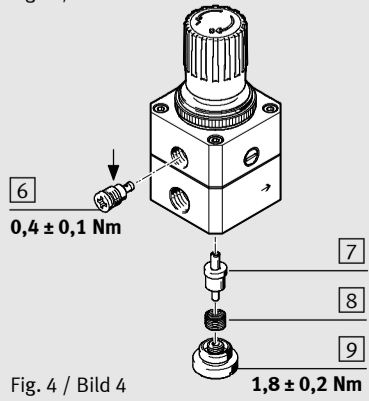

Fig. 4 / Bild 4
**If the interior is dirty (→ Fig. 4)**